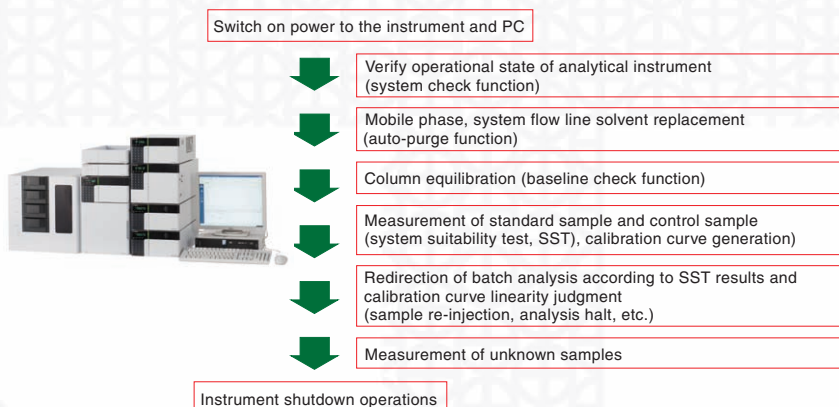

Fig. 1 Analysis Operation Flow
The typical analysis flow is shown in Fig. 1. The steps from switching on the power to the instrument and PC to the start of sample analysis are: (1) Switch the flow line to the mobile phase to be used for analysis. (2) Start oven temperature control according to the analytical conditions, and start solvent delivery. (3) Check the state of field equilibration by monitoring the detector signal on the software baseline monitoring window until baseline stability is attained. (4) And finally, measure the control samples and/or standard samples to conduct system suitability test (SST) and/or generate calibration curves. In addition, while conducting the above tasks, the use frequency of consumable items is checked, measurement samples are set in the autosampler rack, and a batch schedule is created. If the instrument is not working correctly, or if a calibration curve is not properly generated, the software-driven batch analysis sequence is stopped, and SST and/or measurement of the standard samples must be repeated. Thus, the operator must perform the above tasks to verify the readiness of the instrument for analysis. LabSolutions fully automates these tasks with its automated analysis operation functions, relieving the operator of such burdensome tasks.